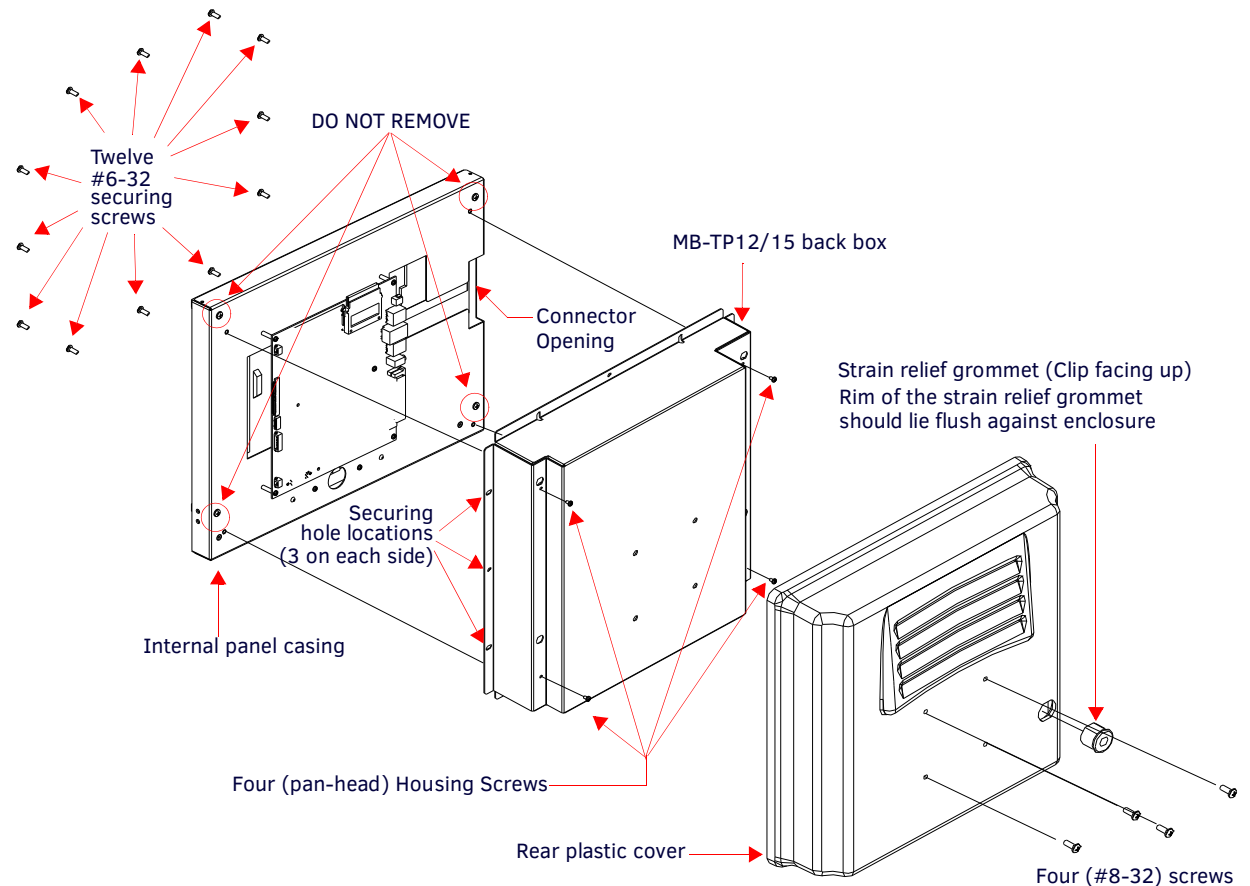

FIG. 34 Location of the attachment screws on the NXD back box and VESA housing
3. Re-install and secure the four pan-head Housing Screws into their pre-drilled holes along the edges of the MB-TP12/15 back box (FIG. 34) and secure them using a grounded Phillips-head screwdriver.
4. Slide the grommet along the cable and securely insert it into the opening on the rear plastic cover (FIG. 34).
5. Firmly push the Strain Relief Grommet into the opening (toward the inside) until the rim is securely flush against the back of the rear plastic cover (FIG. 34).
8. Insert and secure the twelve #6-32 securing screws into their pre-drilled holes along the edges of the NXD unit (FIG. 34). This step secures the NXD unit to the rim of the rear plastic cover.
9. Align a VESA mount connector (purchased separately) to the four #8-32 screw holes on the back of the rear plastic cover (FIG. 34).